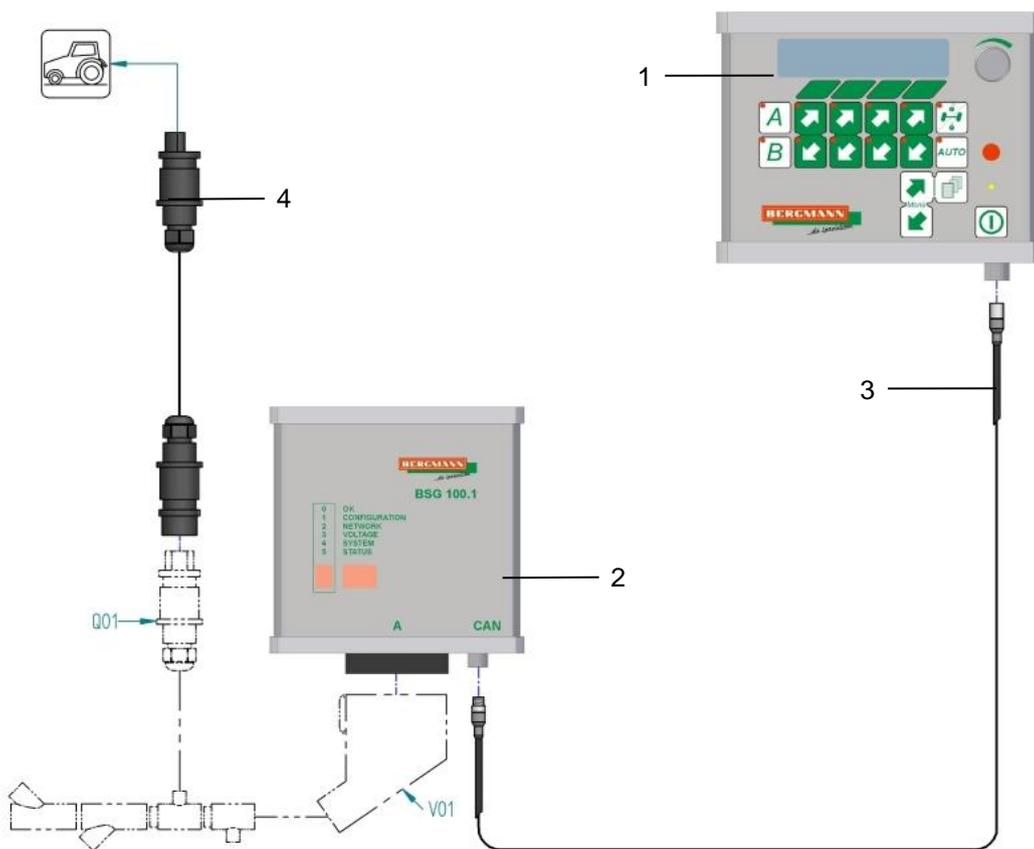

Fig. 4: BCT20 terminal connection diagram
- Connect the terminal (Fig. 4 / Pos.1) to the SG100 / BSG200 controller (Fig. 4 / Pos.2) using the CAN-BUS connection line (Fig. 4 / Pos.3) while taking the following data into consideration:
- Connect the power supply cable (Fig. 4 / Pos.4) to the corresponding connections on the wiring harness and the power supply on the tractor, while taking the following data into consideration: